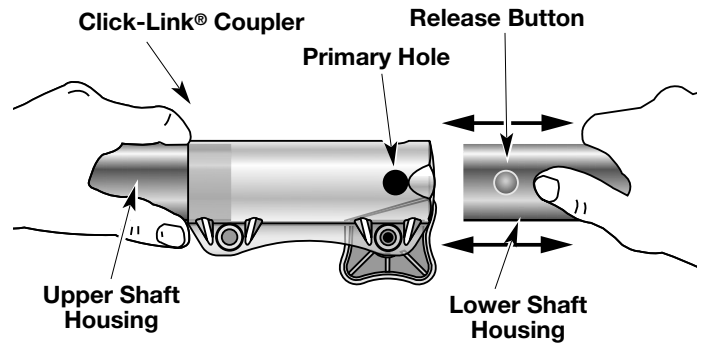

Fig. 2
2. Press and hold the release button (Fig. 2).
2. While firmly holding the add-on, push it straight into the Click-Link® coupler (Fig. 2).
NOTE: Aligning the release button with the guide recess will help the installation (Fig. 2).